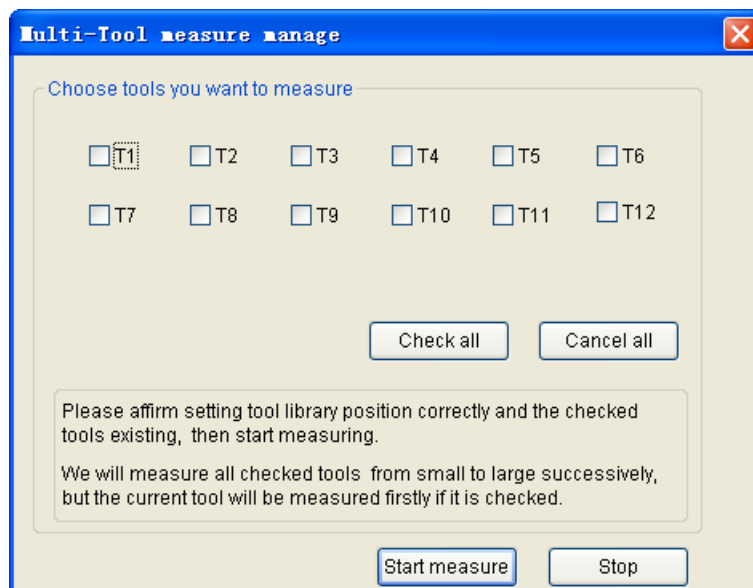

Fig. 9-3 Multi-tool measure manage of line-tool
- 2) Multi-measurement: it specifies the measurement on multi-tools. When [Multi-Meas] is clicked, the multi-tool measure manage dialog box pops up, shown as Fig. 9-3. You can select all the tools you want to measure and click [start measure]. Measurement sequence: it is suggested to measure the current toll before the next one, sticking to the order of small to large successively.